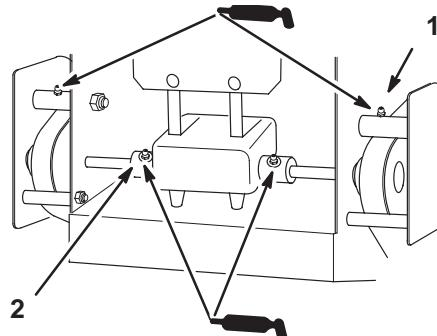

Figure 44
2. Lubricate the transmission couplers every 100 hours and idler arm pivots every 8 hours (Fig 44).